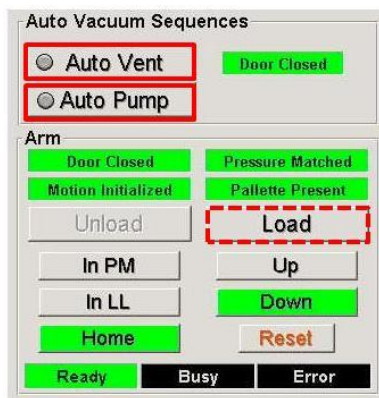

Fig.6: Load lock and robot control window
3.2.1 By convention, the load lock is left under vacuum after using the tool. Press **Auto Vent** in the *Auto Vacuum Sequences* part (Fig.6) of the *Process Control* window to vent and open the load lock.
In case wafer sensing problems, press – by exception – the button **Load** in the robot control window (Fig.6), the robot will place the wafer in PM1, however, without tool confirmation about wafer presence.